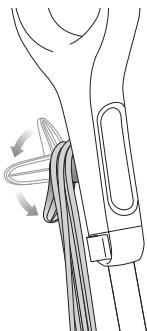

fig. 6
- 1 Pull and twist the Quick-Release Cord Holder to unwrap the power cord completely (**fig. 6**). Plug into an electrical outlet.